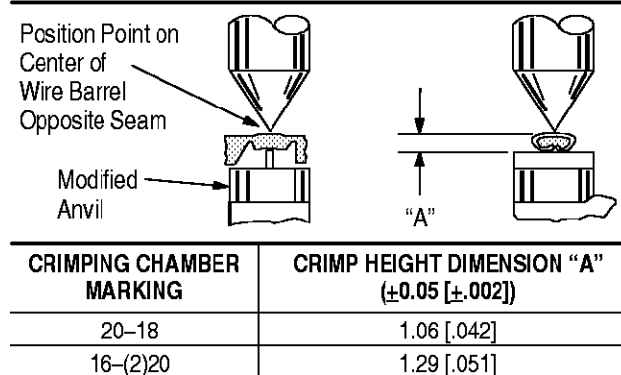

Figure 4
This inspection requires the use of a modified micrometer with a modified anvil, as shown in Figure 4. AMP recommends Crimp Height Comparator RS-1019-5LP, which can be purchased from:
3. Using a crimp height comparator, measure the wire barrel crimp height as shown in Figure 4. If the crimp height conforms to that height, the tool is considered dimensionally correct. If not, the tool must be returned to AMP for evaluation and repair. See Section 6, REPLACEMENT AND REPAIR.